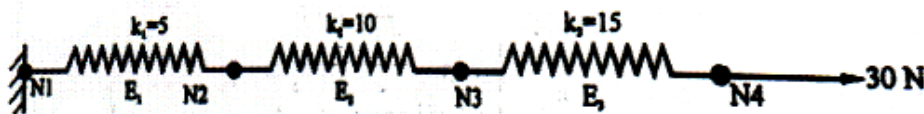

Fig. 2
- b) Fig. 2 shows 3 springs having stiffness 5, 10 and 15 N/mm respectively are connected in series. One end of the assembly is fixed and a force of 30 N is applied at the other end. Evaluate the deflection of individual springs. [10]
Q12) Prepare the process sheet for the component as shown in fig. 2. The required quantity : 5000 Nos./Month. Write detailed manufacturing plan operation sequence, Equipment and Tooling selection, process parameters with sample calculation. [18]